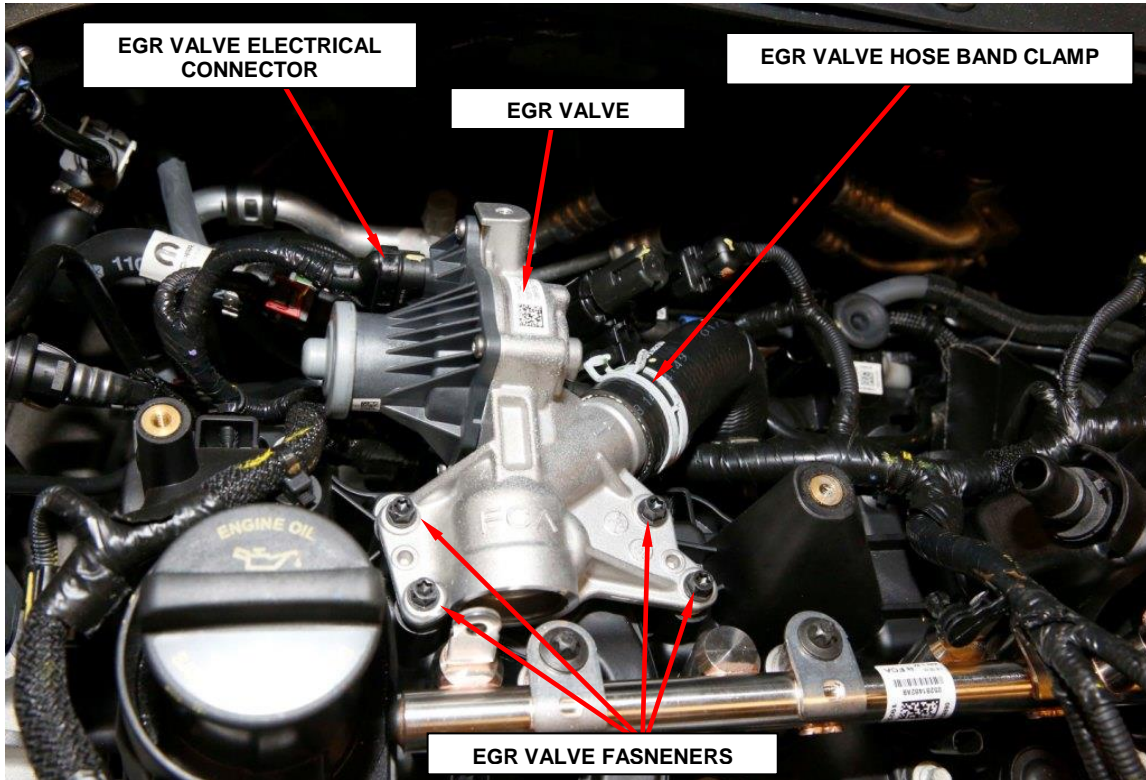

Figure 9 – EGR Valve
26. Unlock and disconnect the Exhaust Gas Recirculation (EGR) valve electrical connector and loosen the hose band clamp (Figure 9).
27. Remove the four EGR valve fasteners and remove the valve (Figure 9).